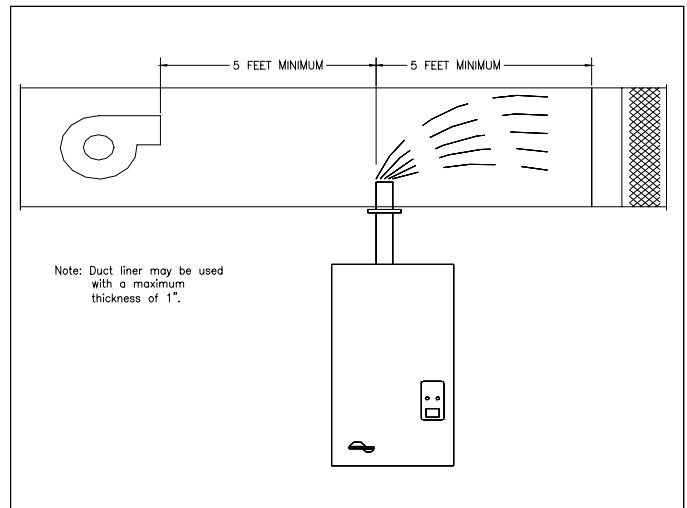
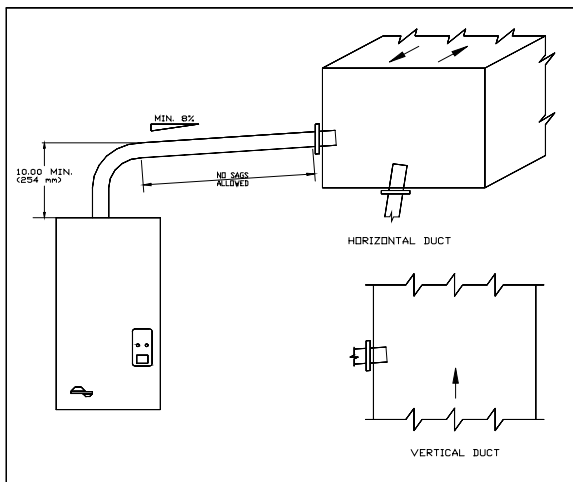

Figure 2
Figure 5
Alternatively, steam generated by the "6000" unit can be discharged directly into the system ductwork (6000-3,4). In this application, a steam pipe is preferably installed in the system ductwork at least five (5) feet downstream of the supply air blower. There should be no obstructions within the first five- (5) feet downstream of the steam distributor as shown in Figure 2. An air-proving switch and high limit humidistat are provided for better system control in ducted applications. If the heating system
Herrmidifier supplies a stainless steel duct distributor for injecting pure steam into the duct. This can be installed in the bottom or the side of the duct (See Figure 5). When installing in the side of the ductwork make sure it is positioned to allow condensate to drain back down the steam hose. The duct distributor pipe has a built in pitch to allow condensate to drain back into the hose. The hose must be installed with a minimum 8% (1" per foot) pitch back to the humidifier to allow condensate to drain back to the steam cylinder (See Figures 5 & 6). A minimum of 5 feet downstream clearance before any bends or obstructions is recommended for most applications (See Figure 2). However, different psychrometric conditions may require greater or lesser steam absorption distances. A minimum duct temperature of 60 degrees F is recommended. Temperatures below this may cause condensation to form in the duct. Lined duct may be used if the thickness is 1" or less.